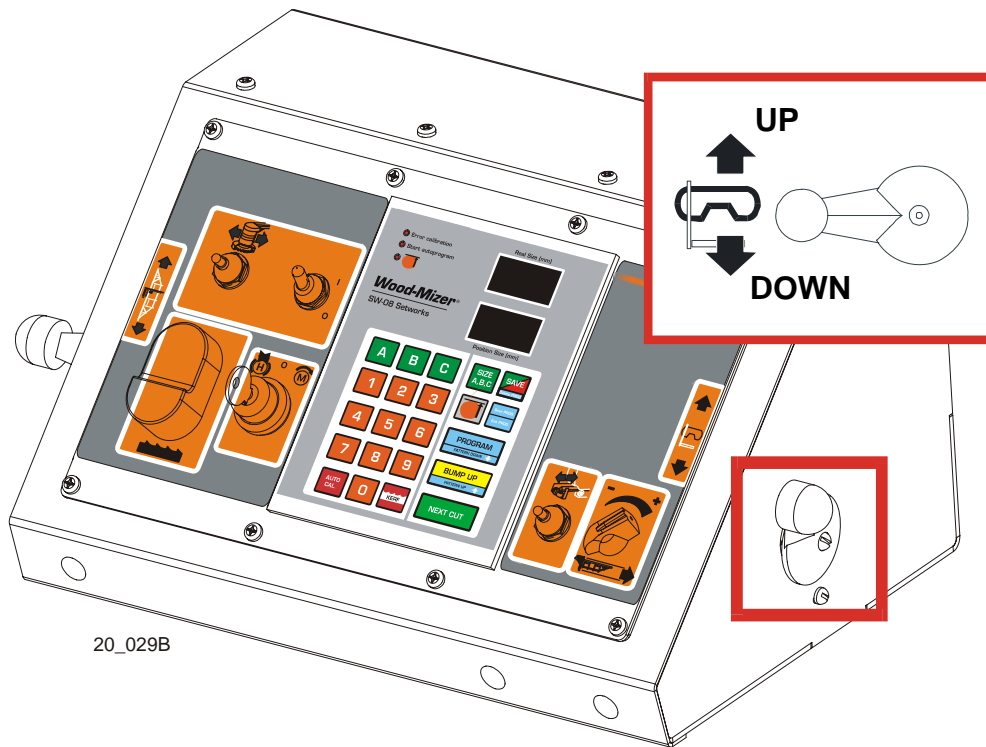

FIG. 2-14
**See Figure 2-14.** The up/down switch is located on the right side of the control panel. Push the switch up to raise the cutting head; push the switch down to lower the cutting head. Hold the switch